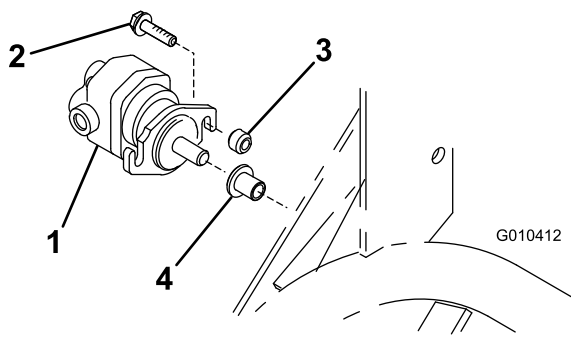

Figure 11
- C. Using the reel motor flange as a template and positioning it as shown in Figure 11, locate, mark, and drill a hole (0.344 in. diameter) on the scribed line.